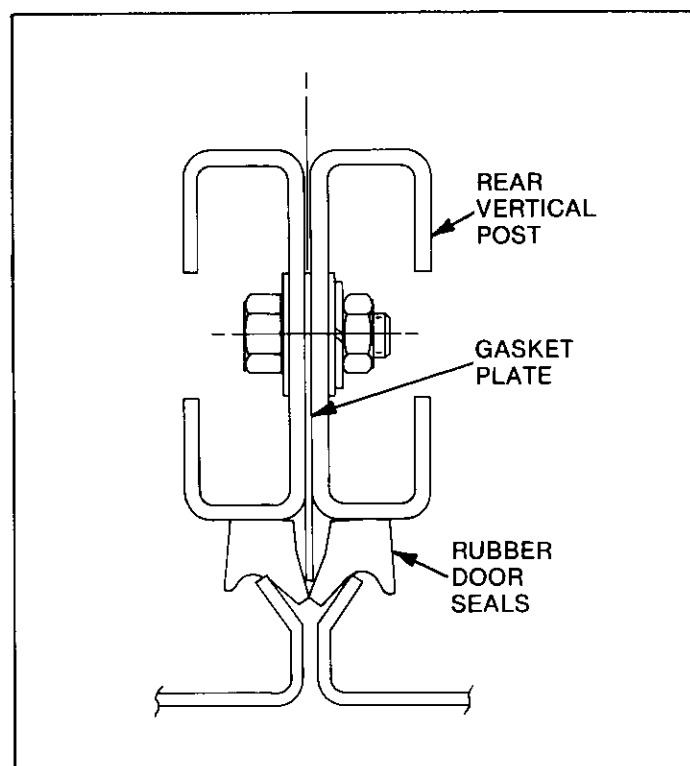

Fig. 4-21. Installation of door seals
12. **INSTALL DOOR SEALS**—The shipping split assembly is completed by installation of the seals for the front and rear doors. Refer to Fig. 4-21. The rubber door seals should be secured with cement (3M No. EC870) to the front and rear vertical posts. The gasket plate extends out from the enclosure to stiffen and maintain the seals in their proper position against the doors.